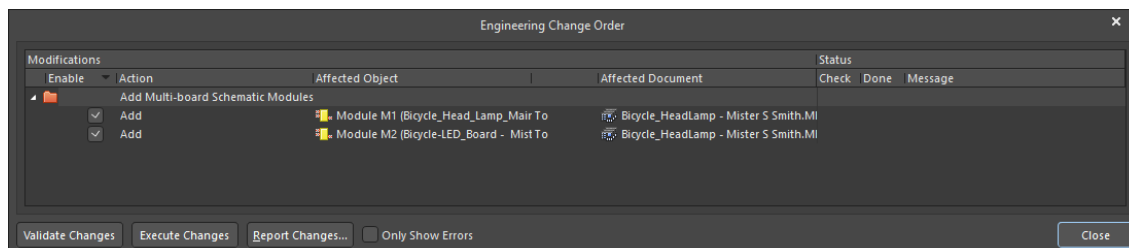

Figure 23. MB Assembly ECO Update Dialog
51. The *ECO* dialog is displayed to represent the update change to the MB Assembly file. In this case, the 3D board design, represented as Module M1 and M2, will be added to the MB Assembly file, see Figure 23 below.